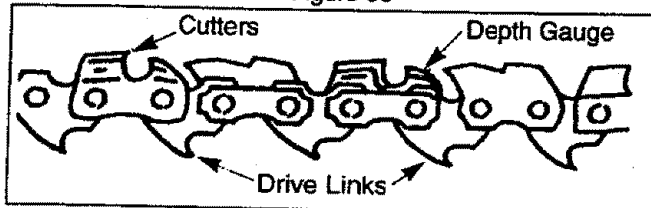

Figure 37
- Carefully remove new chain from package. Hold chain with the drive links as shown in Figure 37.